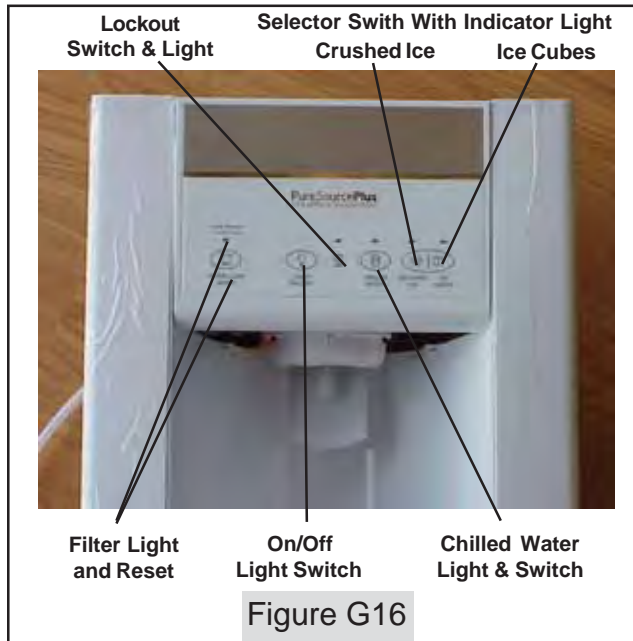

Figure G16
The dispenser light will come on automatically when the actuator is pressed to deliver ice or water. For the light to remain on, press the pad that says "Light On/Off" one time. A second press will turn the light off. (See Figure G16)
Press the pad that signifies your selection. A green light will appear above your selection. The water delivery system has a built in safety shut-off device that will stop the water flow after three (3) minutes of continuous use. Simply release actuator button to reset the dispensing mechanism. (See Figure G16)
The ice and water dispensing system can be locked out to prevent unwanted use. Press the picture of the padlock (See Figure G16) for 3-5 seconds to lock out the system. A small red light will appear over the padlock when the system is locked out. Press the padlock again, holding it for 3-5 seconds, to unlock the system. The red light will go out. The ice and water dispensing system is now ready to use again.
should be changed as soon as possible. After the filter cartridge has been changed, press the words that say "Filter Light Reset". If the light was red or amber, you'll need to press for 3-5 seconds to reset to green (The green light will flash when reset is complete). If light was still green when the filter is replaced, you will need to press "Filter Light Reset" for 10-12 seconds to reset (You should see the green light flash when the reset is complete ... See Figure G16)